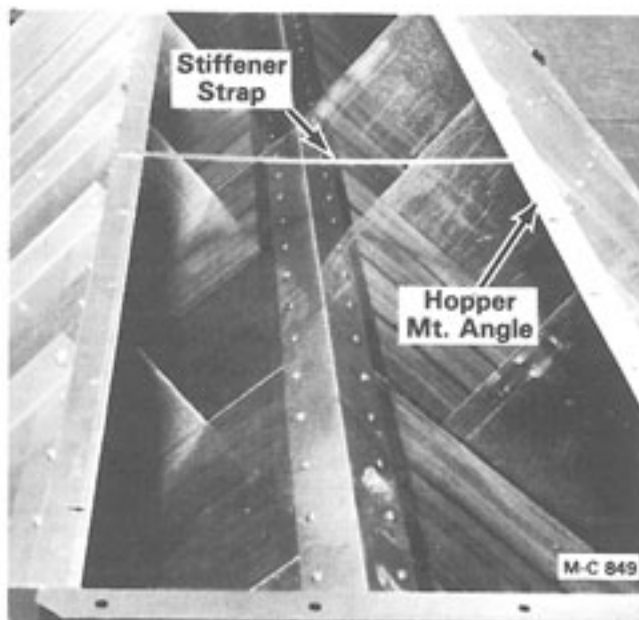

Figure 5
1. Place a 28" Stiffener Strap #1292947 across the center of the screen section top connecting the mount angles that are bolted to the top of the outer screens. See Figure 5.
2. Attach cables to the (4) Lifting Bars bolted to the hopper sides. Use spreader bars between the cables and lift hopper assembly onto the top of the screen section. Check position of the Stiffener Strap so it lines up with holes in hopper sides and hopper mount angles. Hopper Assembly weighs about 180 lbs.
**NOTE:** The Hopper and Level Auger can be assembled on the dryer screen section or on a hard flat level surface and then lifted onto the dryer screen section. If hopper and level auger is assembled on the dryer screen section, be sure to place a 28" Stiffener Strap #1292947 across the centers of each 8 ft. screen section top connecting mount angles that are bolted to the top of the outer screens. See Figure 5.
- Place a stiffener strap #1292947 (28" long) across the centers of each 8 ft. screen section top connecting mount angles that are bolted to the top of the outer screens. See Figure 5.